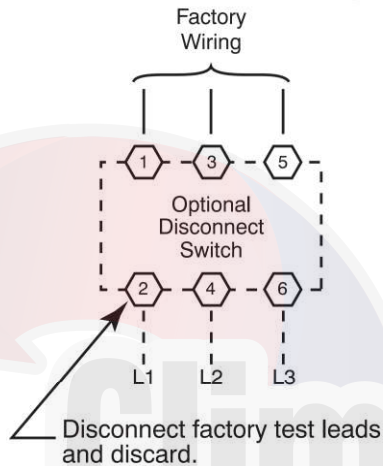

Fig. 29 — Power Wiring Connections
Field power wires are connected to the unit at line-side pressure lugs on compressor contactor C and indoor fan contactor IFC (see wiring diagram label for control box component arrangement) or at factory-installed option non-fused disconnect switch. Max wire size is #4 AWG (copper only). (See Fig. 29.)
Units with Factory-Installed Non-Fused Disconnect — The factory-installed option non-fused disconnect (NFD) switch is located in a weatherproof enclosure located under the main control box. The manual switch handle and shaft are shipped in the disconnect enclosure. Assemble the shaft and handle to the switch at this point. Discard the factory test leads (see Fig. 29).
All Units — All field wiring must comply with NEC and all local codes. Size wire based on MCA (Minimum Circuit Amps) on the unit informative plate. See Fig. 29 and the unit label diagram for power wiring connections to the unit power terminal blocks and equipment ground. Maximum wire size is #4 ga AWG per pole.
2. Install power lines to terminal connections as shown in Fig. 29.
Field power wires are connected to the unit at line-side pressure lugs at the main terminal block (TB1) or at factory-installed option non-fused disconnect switch. Max wire size is #2 AWG (copper only). See Fig. 29.